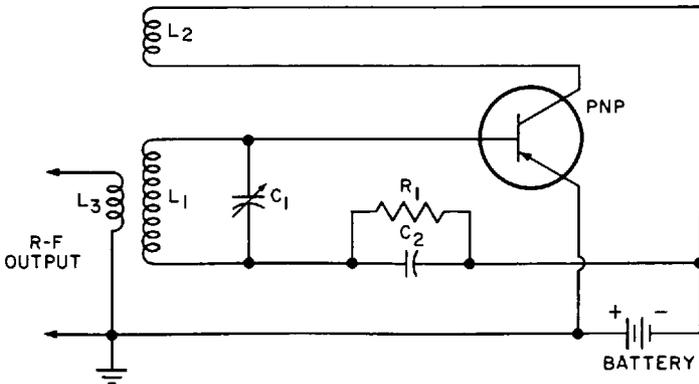

Fig. 28-16. Typical circuit of a transistorized oscillator stage.
**Transistorized Oscillator Stage.** The transistor may be employed as an oscillator, a typical circuit of which is illustrated in Figure 28-16. Inductor  $L_1$  and capacitor  $C_1$  form the oscillatory circuit. Feedback to compensate for losses and thus keep the oscillations going comes from the collector circuit through  $L_2$  which is